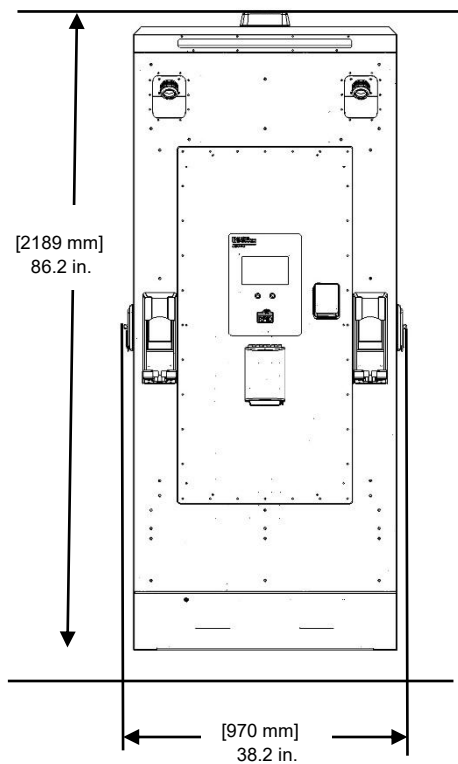
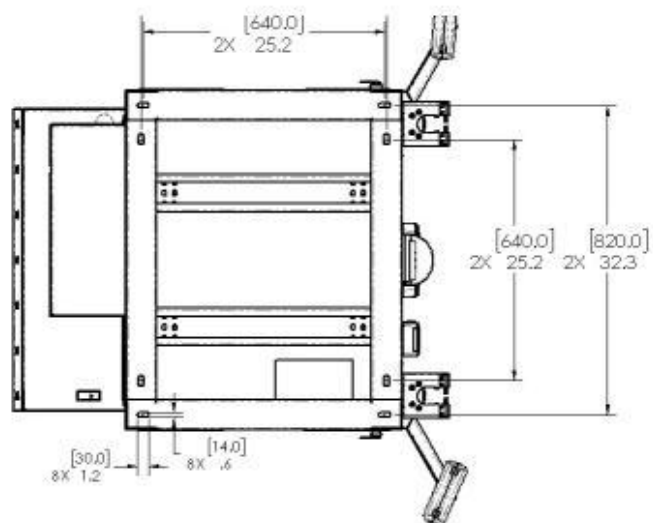

Figure 4.1 – Front view of height and width of EVFC120 Charger
Figure 4.3 –EVFC120 Charger with cable management and dimensions
3. Become familiar with essential dimensions of EV Fast Charger Model EVFC120 as shown in Figure 4.1 and 4.2 (without cable management) and Figure 4.3 (with cable management).